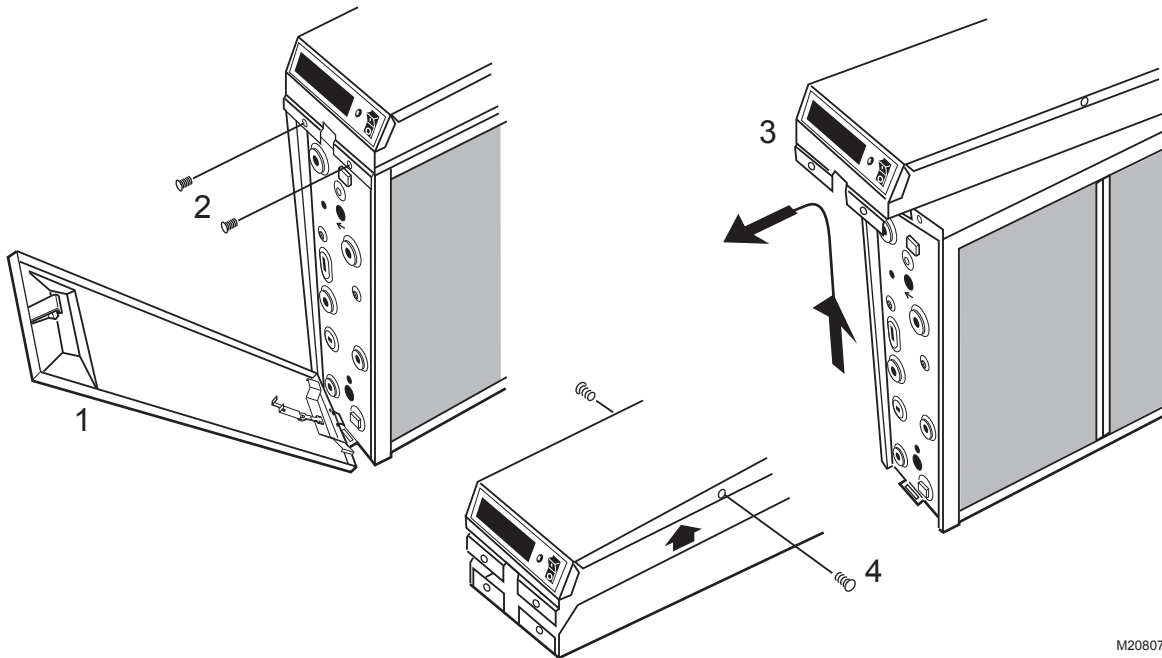

Fig. 17. Remove power box from air cleaner and remove cover.
- c. Remove the power box cover. See Fig. 17.